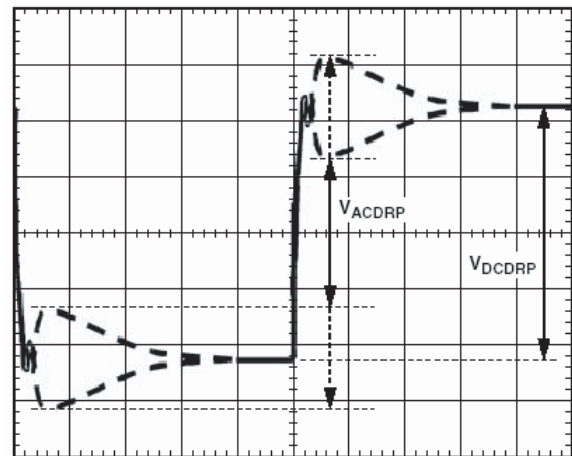
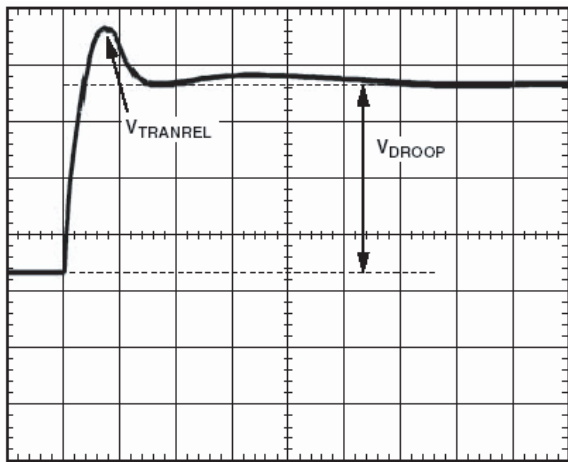

Figure 9. Transient Setting Waveform
Figure 10. Transient Setting Waveform
19. With dynamic load still set at maximum step size, expand the scope time scale to see 2 $\mu$ s/div to 5 $\mu$ s/div. You will see a waveform that may have two overshoots and one minor undershoot (see Figure 9). Here,  $V_{DROOP}$  is the final desired value.
21. For load release (see Figure 10), if  $V_{TRANREL}$  is larger than  $V_{TRAN1}$  (see Figure 9), you do not have enough output capacitance. You will either need more capacitance or need to make the inductor values smaller (if you change inductors, you need to start the design over using the spreadsheet and this tuning procedure).